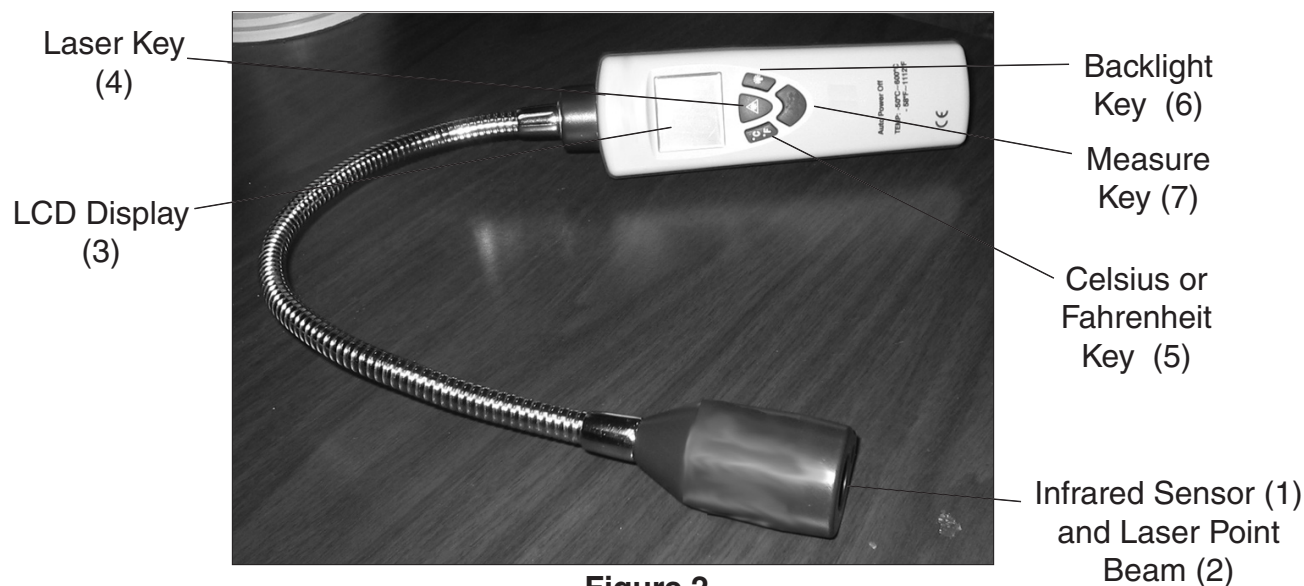

Figure 2
1. The Thermometer automatically powers ON when the Measuring Key (7) is selected. The Thermometer will power OFF automatically approximately 7 seconds after the Measuring Key (7) is released. **See Figure 2.**
3. Select the temperature units you wish by first pressing the Measuring Key (7) and then the “C” or F” Key (5). Toggle back and forth to choose the correct reading.